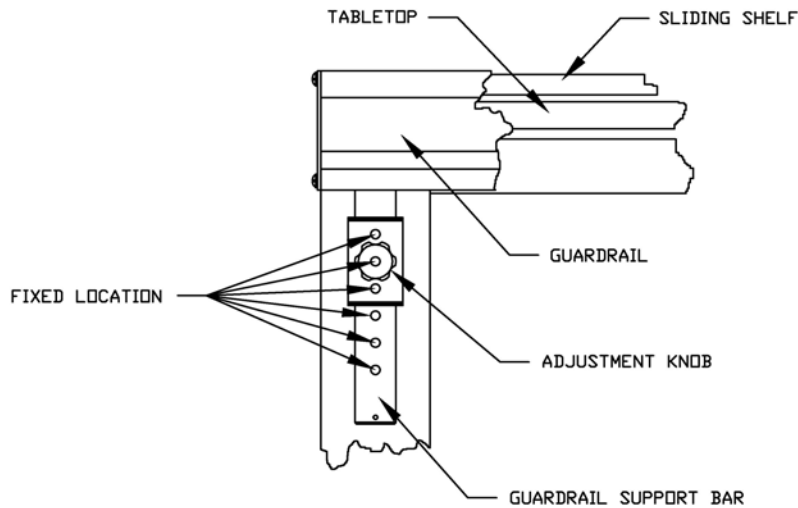
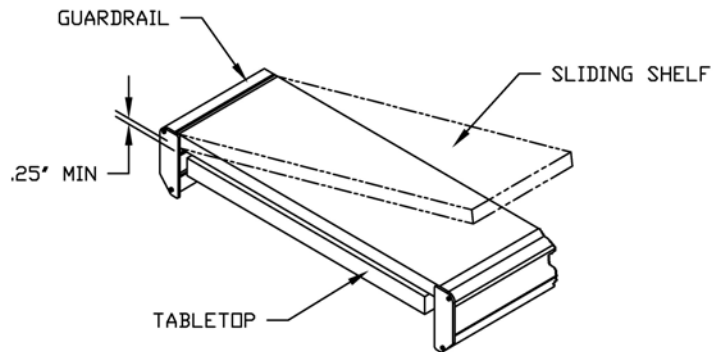

Fig. 3 MK52 Guardrail Height Adjustment.
Fig. 4 Sliding Shelf Illustration
2. To adjust the Guardrail height, loosen the Adjustment Knob on both sides of the Guardrail and raise or lower the Guardrail evenly (as shown in Fig. 3). It is not necessary for the front and rear Guardrails to be at the same height, except when used with an optional Sliding Shelf, with a Sliding Shelf, the Guardrail must be adjust to allow a minimum of $\frac{1}{4}$ inch clearance between the bottom surface of the Shelf and the Top surface of the Tabletop (as shown in Fig. 4).
3. The Sliding Shelf or shelves simply drop onto the front and back guardrails (as shown Fig. 4). They can then be slide into any position desired.